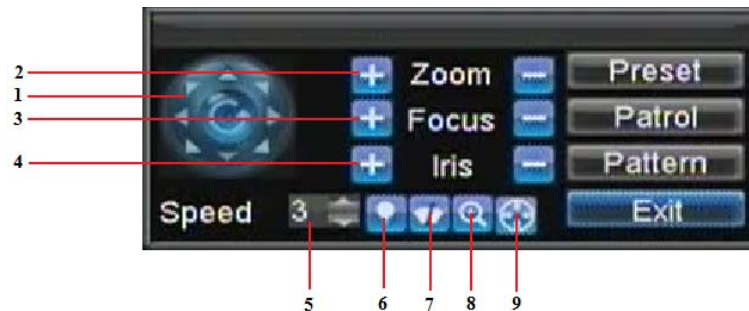

Figure 3. PTZ Control Interface
The PTZ control panel provides a series of PTZ controls, shown in Figure 3.
1. Enter the PTZ Control interface, shown in Figure 3, by selecting PTZ from the mouse menu or clicking the *PTZ* button on the front panel.